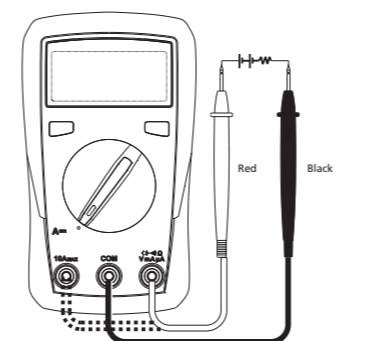

Fig. 2
5. DC MEASUREMENT (see fig. 2)